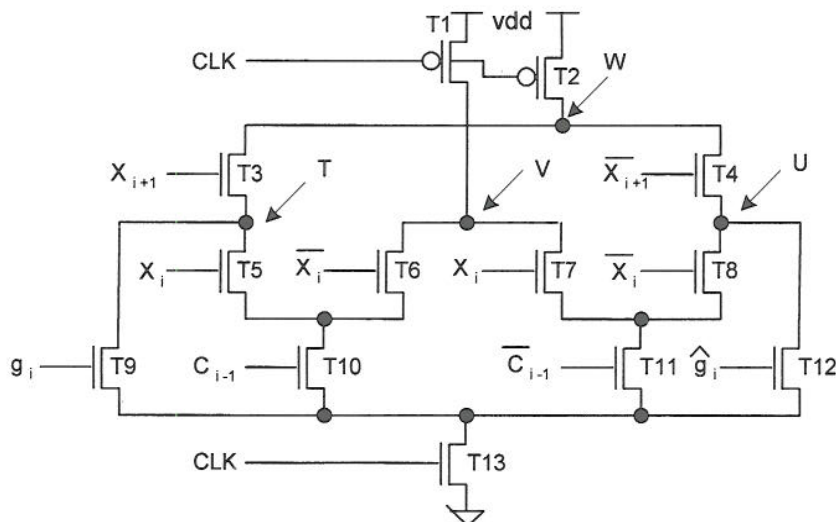

Figure 3.1
- b) a_i, a_{i+1} and b_i, b_{i+1} are the i^{th} and $(i+1)^{\text{th}}$ bits of the binary numbers A and B respectively. Figure 3.1 shows a 2-bit binary adder using a precharge circuit to add the i^{th} and $(i+1)^{\text{th}}$ bits of A and B together. c_{i-1} is the carry input to the i^{th} bit from the adder adding the lower bits together. The signal CLK is the precharge clock. Suppose:
- c) Design the layout of the circuit shown in Figure 3.1 in the form of symbolic layout or stick diagram. Label your layout by marking all the transistors and signal nodes.